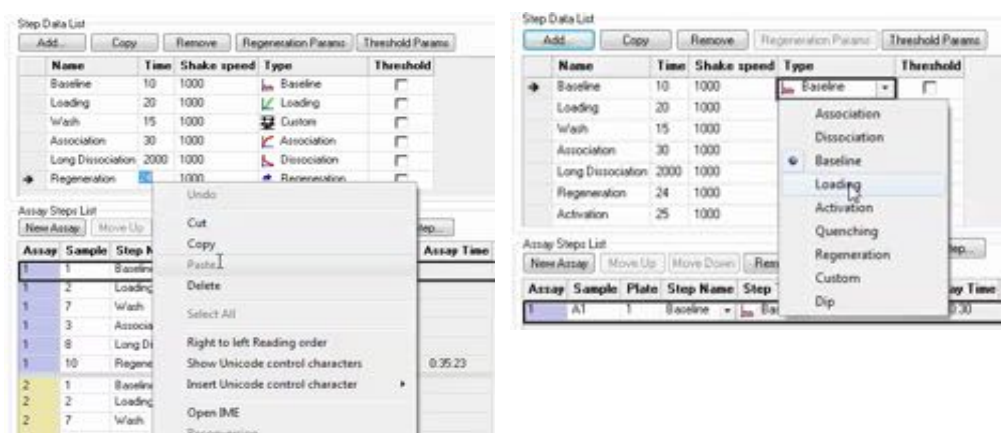

Figure 10-36: Editing a Step Value (left) or Step Type (right)
1. Double-click the cell in the step's **Name**, **Time**, or **Shake speed** column and then enter a new value. Or, right-click the cell to display a shortcut menu of editing commands (see Figure 10-36, left).
2. Click the cell in the step's **Type** column, then select another name from the drop-down list (see Figure 10-36, right).